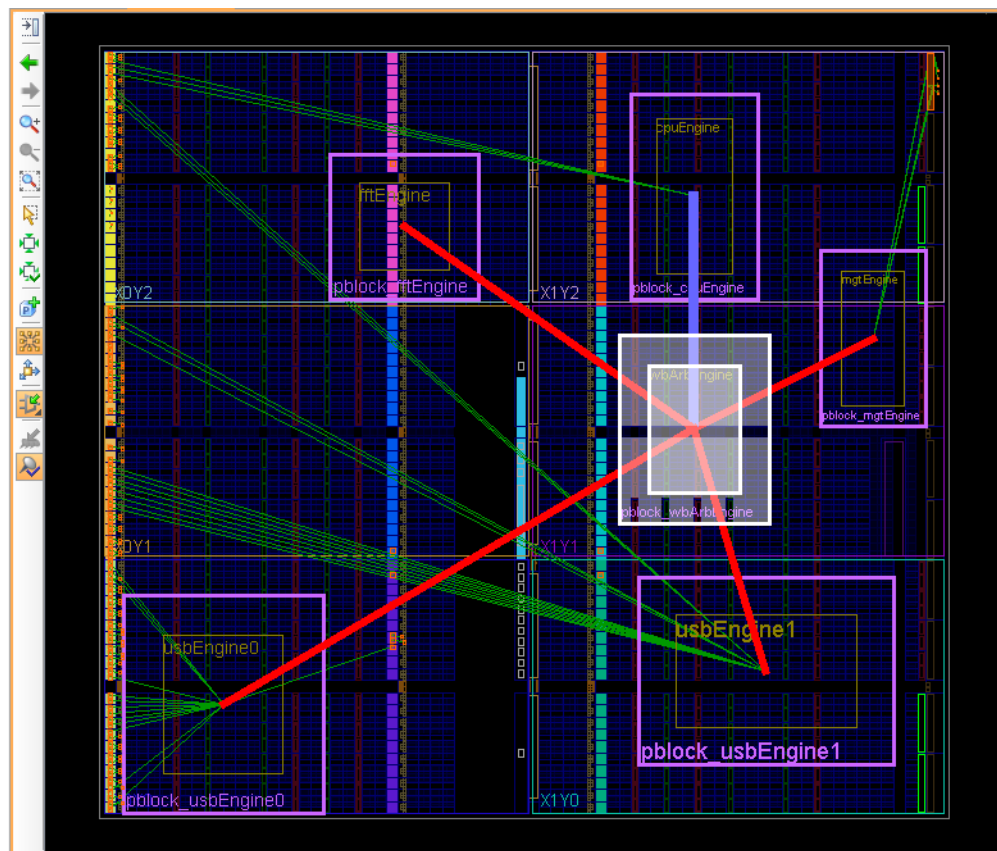

Figure 3-5: Top Level Floorplan for Analysis
In Figure 3-5, Top Level Floorplan for Analysis:
Figure 3-5 shows the top level floorplan for this design. The design hierarchy is spread around the chip. The pinout would support floorplanning **usbEngine1**. Based on the pinout, **usbEngine1** (at the bottom right of the device) should be placed in the upper left corner of the device.
**Note:** To view the net connections and the net bundles, as seen in Figure 3-5, you must enable the **Show I/O Nets** command on the Device view toolbar menu, and enable the display of Bundle Nets in the Device Options. See the *PlanAhead User Guide (UG632)*, as referenced in Appendix A, “Additional Resources,” for more information.